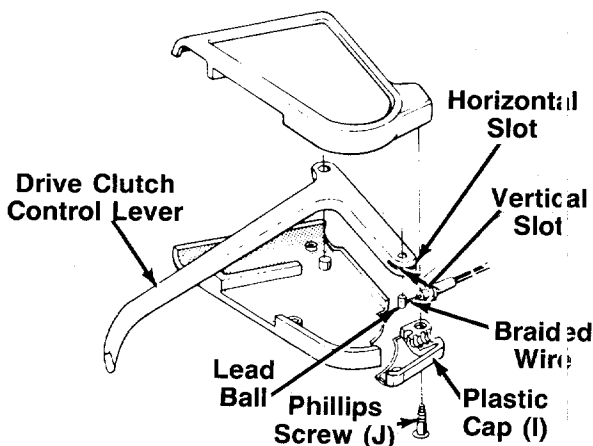

FIGURE 9.
b. Slide the braided wire around in the horizontal slot. See figure 9.
d. Secure the plastic cap (I) to the clutch control housing using the two Phillips head screws (J). See figure 9.